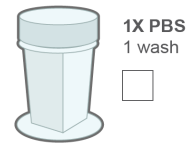

Figure 111: 1X PBS Wash
6. **Transfer** to a staining jar with **fresh 1X PBS** and repeat wash (Figure 111).